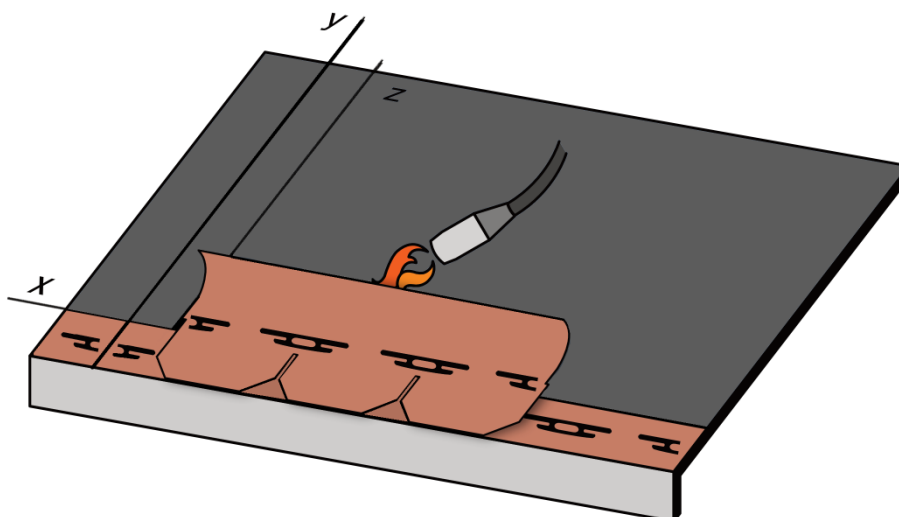

Fig. 17 - First row shingles installation by torch
- Proceed with the installation of the first row of shingles: align the lateral edge of the first shingle on the vertical **z** and the upper edge on the horizontal 14,5 cm from **x** - see Fig. 17. Fix the shingle to the membrane using the torch and lifting the top of the shingle with a tool, Fig. 17. The self-adhesive points will fix the tabs of the shingles of the first row to the shingles below, of the starting row. Move forward installing all the shingles of the first row.